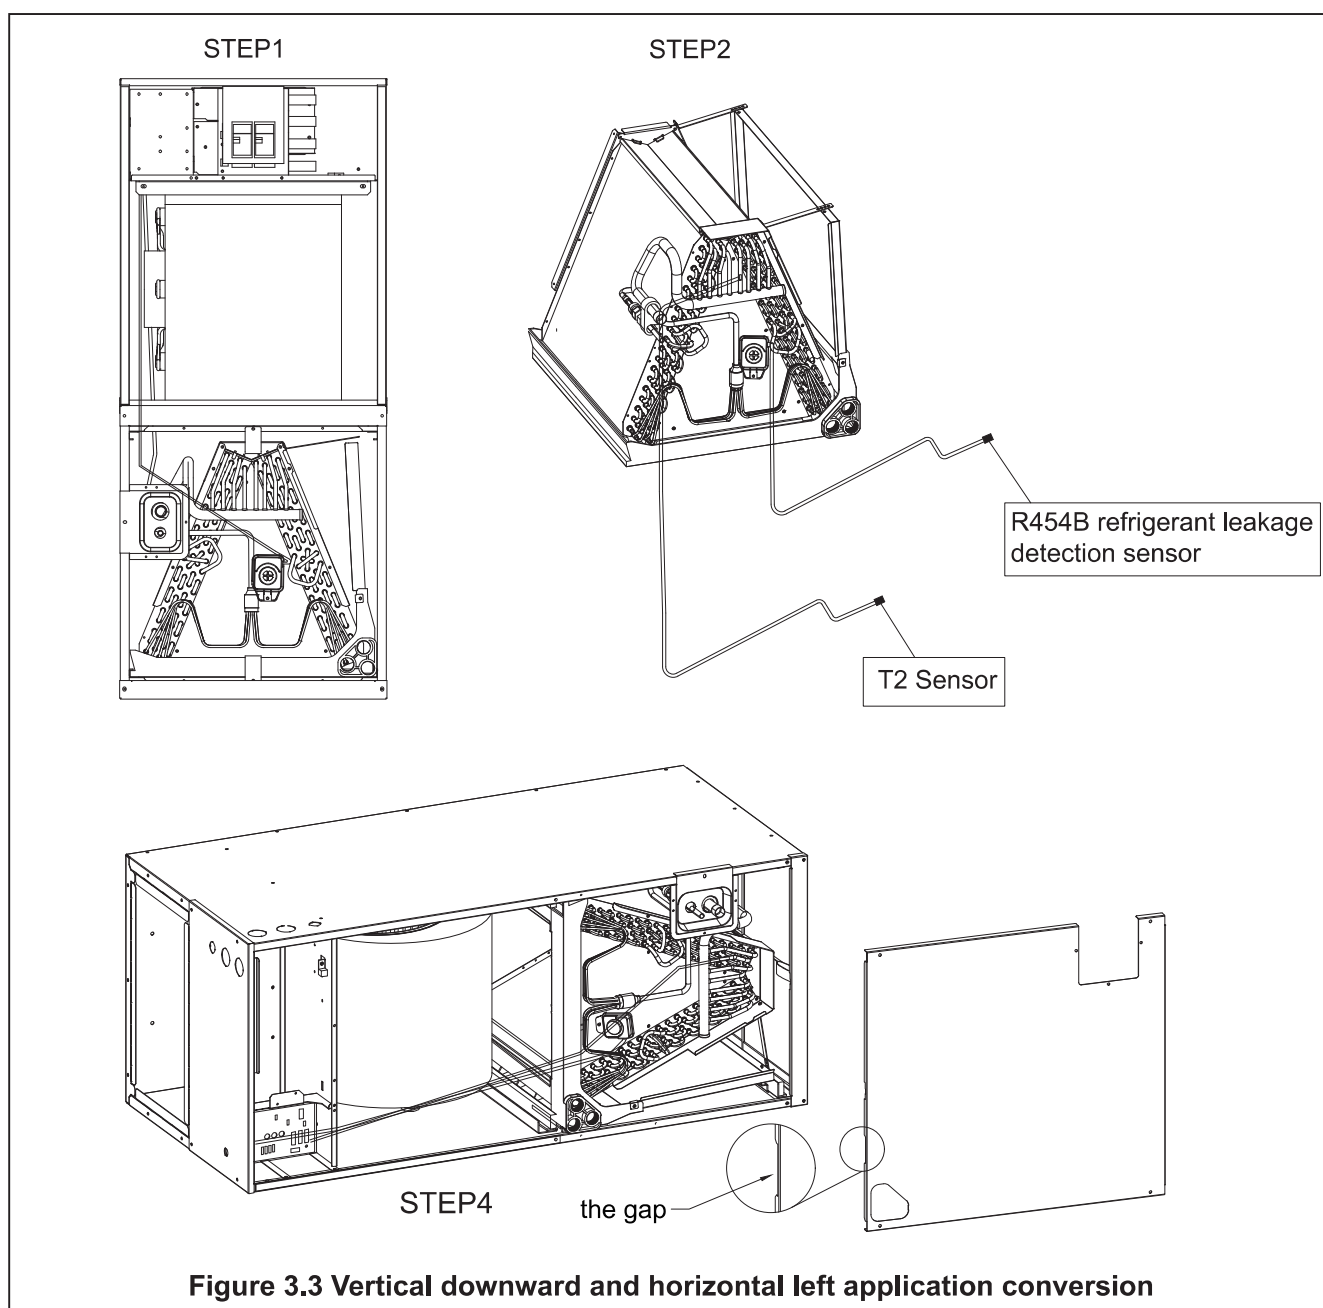

Figure 3.3 Vertical downward and horizontal left application conversion
- By removing the indoor coil assembly and reinstalling the coil, the vertical upflow position can be converted into a horizontal left position, See Figure 3.3 and 3.4.
1. Remove the screws and the front panel, and disconnect the plug of T2 sensor and R454B refrigerant leakage detection sensor wire from the circuit board (Figure 3.3, Step 1).
2. Pull out the coil with sensor wire (do not disconnect T2 sensor and R454B refrigerant leakage detection sensor from the coil). (Figure 3.3, Step 2)
3. Install the coil in the correct direction and fix it in place. Reinsert those sensor wire in PCBA through the gap on the cabinet cover (Figure 3.3, Step 3).